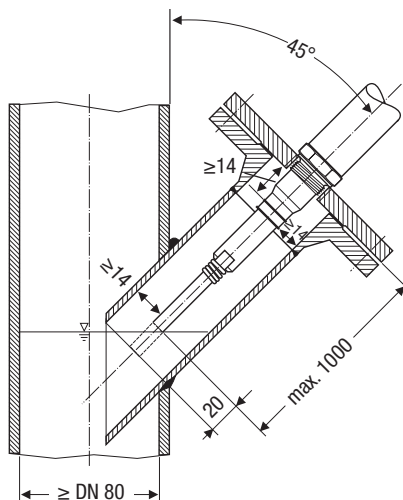

Fig. 16 Inclined installation, e. g. in ascending inlet lines of hot-water installations or vessels
- The angle of inclination of the electrode must not exceed 45°, with the length of the electrode rod being limited to 1000 mm. **Fig. 16, 20**